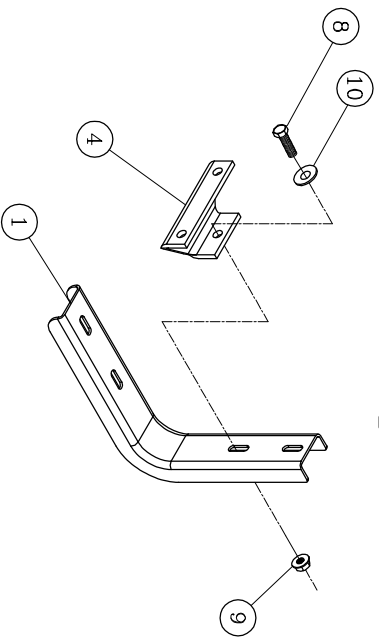

fig.1
1. PREASSEMBLE FRONT BRACKETS (ITEM 1) WITH SPACER BRACKETS (ITEM 4), USING THE 5/16-18 ZINC PLATED BOLTS WITH THE 5/16" WASHERS AND THE FLANGE NUTS (ITEMS 8, 9 & 10). HAND TIGHTEN ONLY AT THIS TIME. **SEE FIG. 1.**